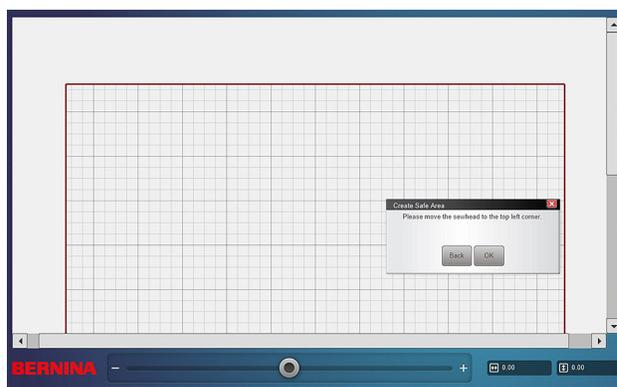

Fig. 9
3. Both the Q-matic screen and the Sewhead screen will prompt you to move the Sewhead to the upper leftmost corner of the loaded quilt back (Fig. 9).